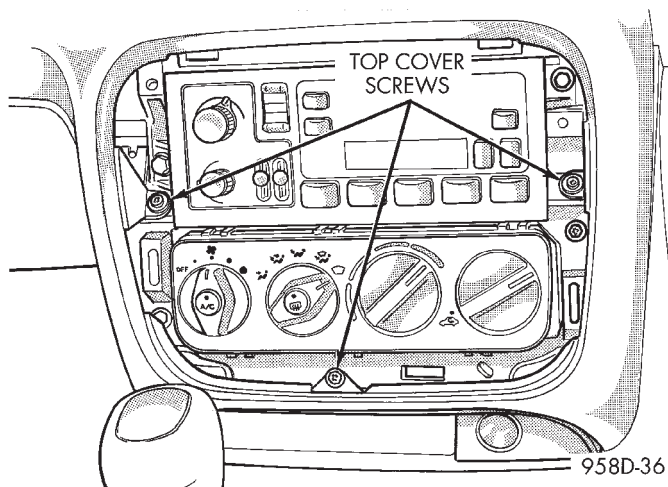

Fig. 12 Instrument Panel Top Cover-Center
(9) Remove screws holding instrument panel top cover to center of instrument panel (Fig. 12).